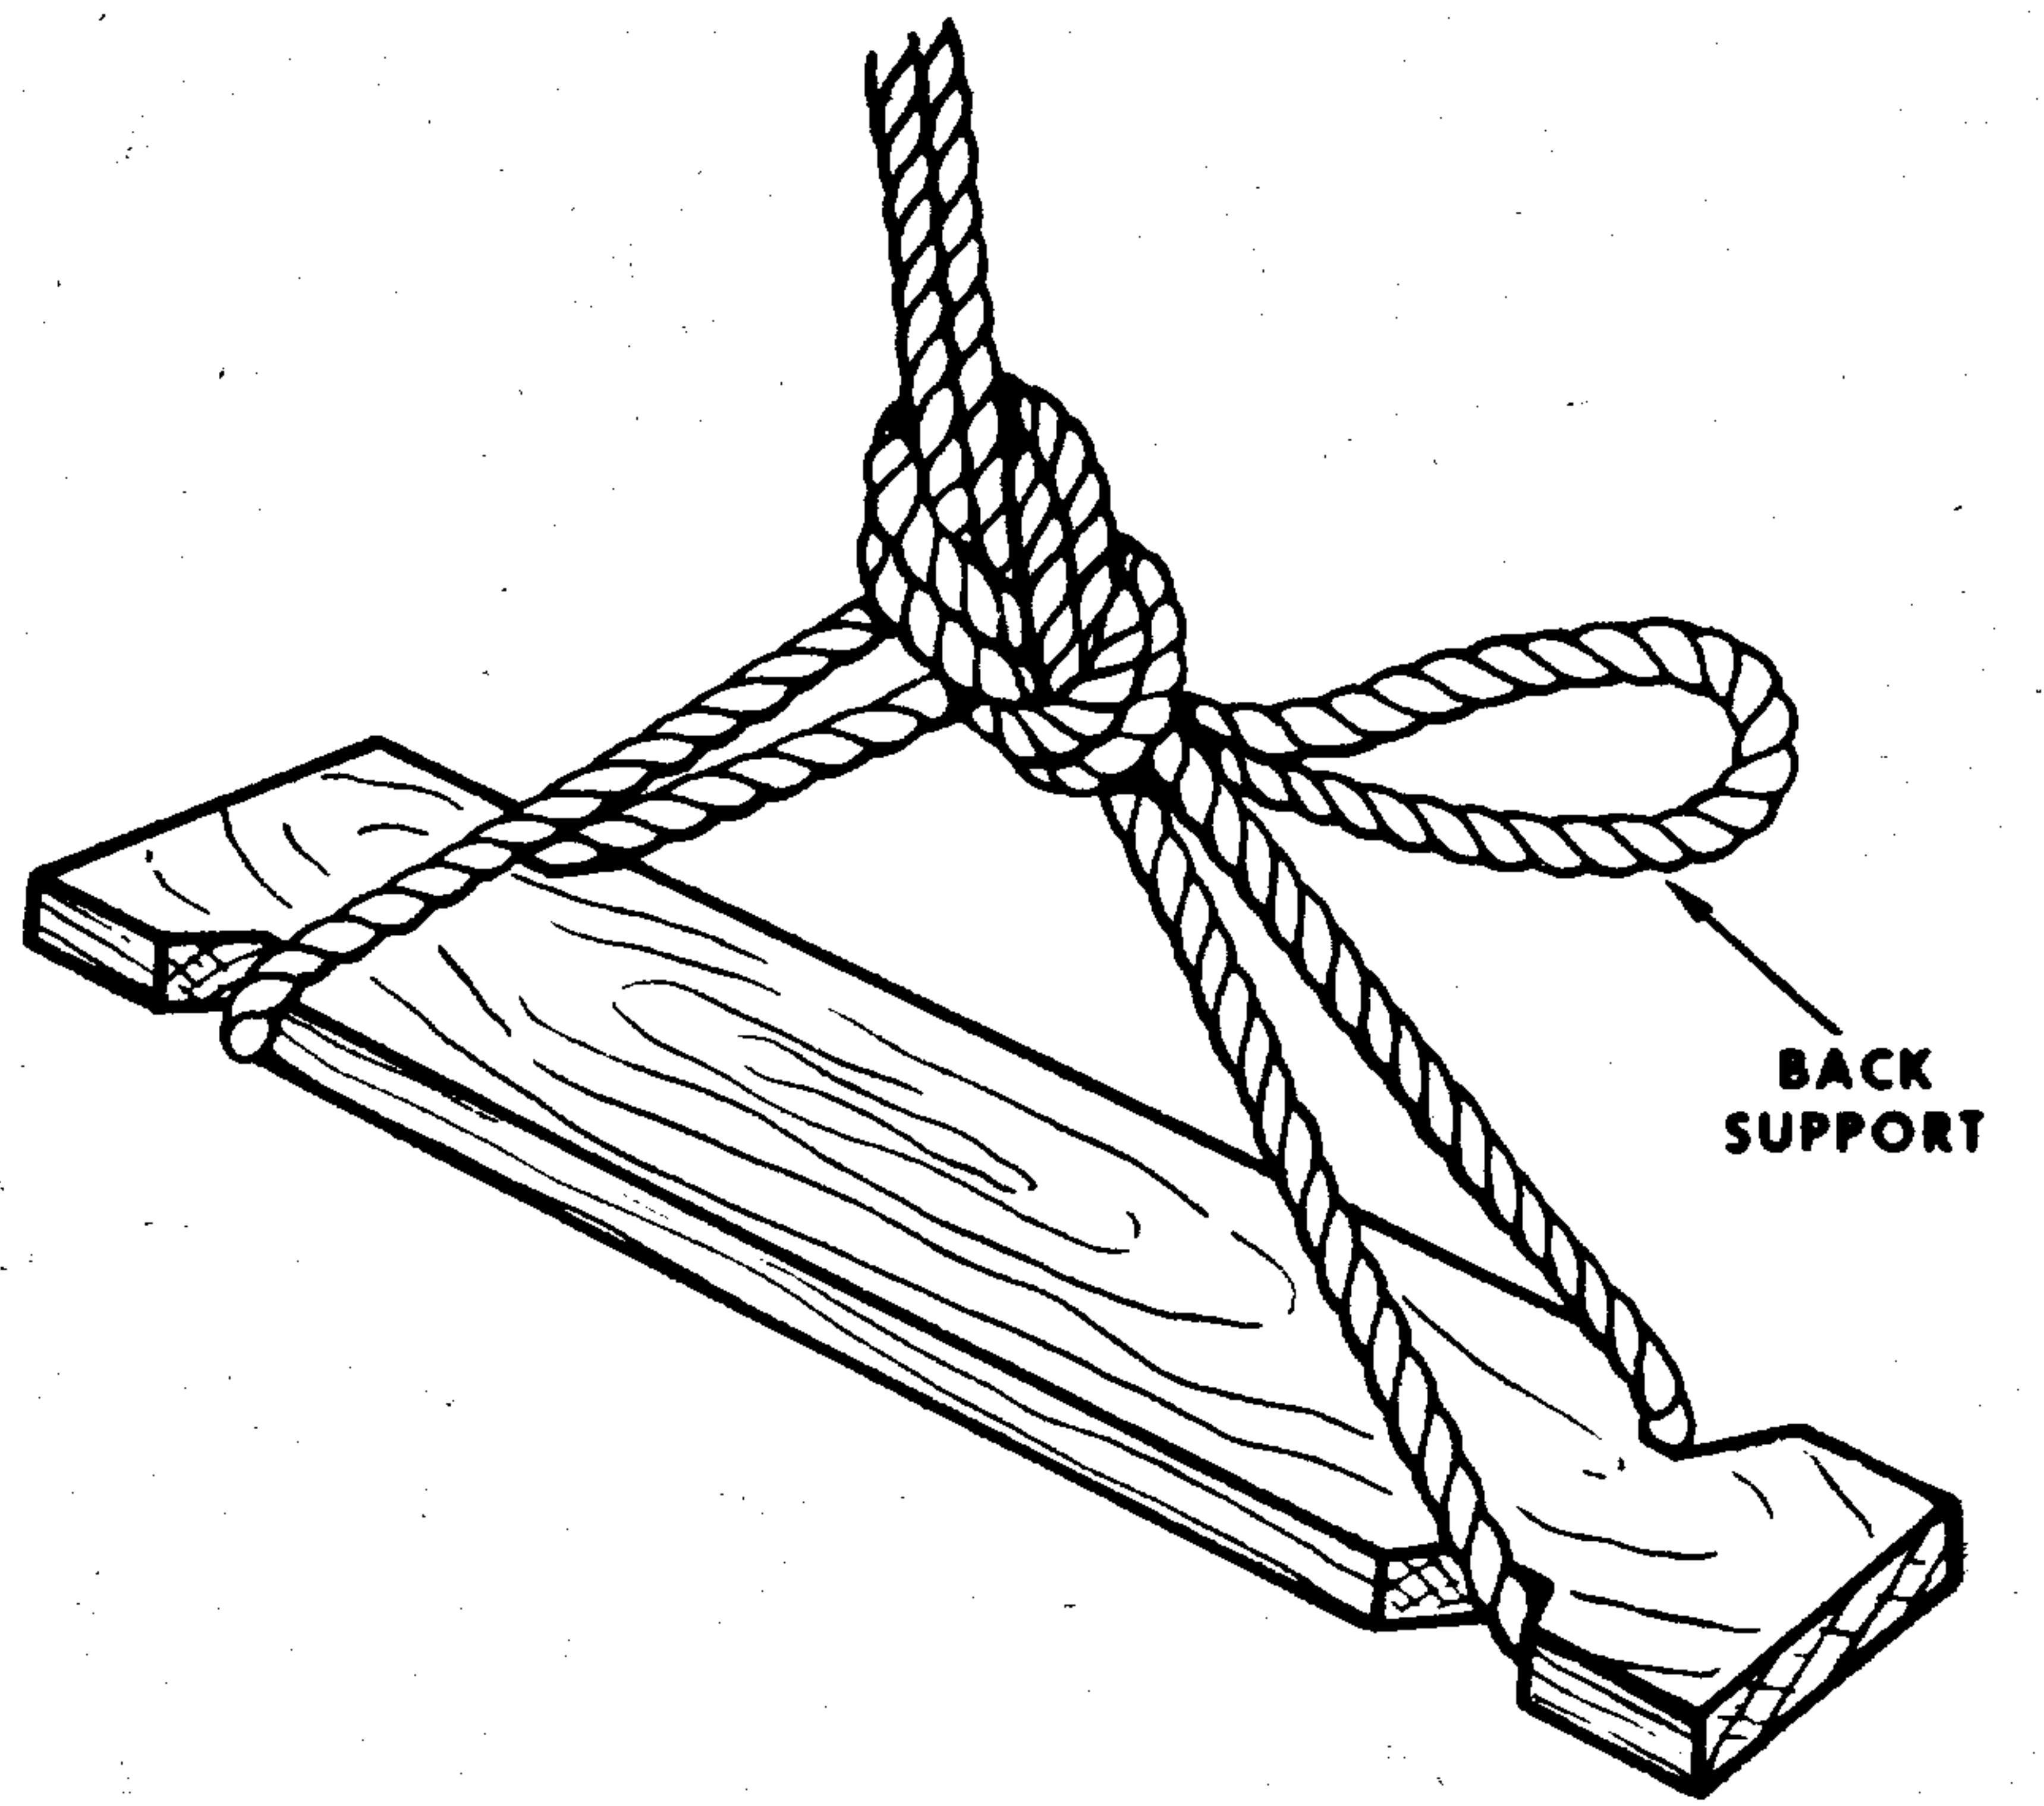

Figure 6-9. Boatswain's chair with seat.
b. Rope Chair With Seat. If the rope boatswain's chair must be used to support a man at work for some time, the rope may cause considerable discomfort. A notched board (fig. 6-9) inserted through the two leg loops will provide a comfortable seat. The loop formed as the running end to make the double bowline will still provide a back support, and the rolling hitch can still be used to lower the boatswain's chair.